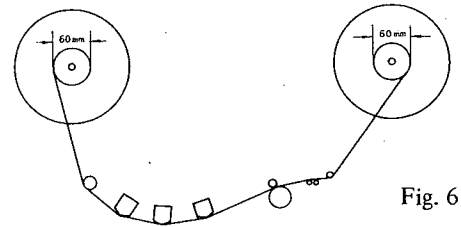

Fig. 6
- 1) Back tension for "Reverse Play" depends upon the torque of Motor B, as shown in Figure 6. Adjust back tension to 60 grams adjusting the 230  $\Omega$  Resistor (F), as shown in Figure 5. At this tension setting, voltage applied to Motor B is approximately 29 V.
- 2) Take-Up tension for "Normal Play" depends upon the torque of Motor B, as shown in Figure 6. Adjust take-up tension to 100 grams by adjusting the 120  $\Omega$  Resistor (A), as shown in Figure 5. At this tension setting, voltage applied to Motor B is approximately 41 V.
- 3) Back tension for "Normal Play" depends upon the torque of Motor A, as shown in Figure 6. Adjust back tension to 60 grams by adjusting the 230  $\Omega$  Resistor (F), as shown in Figure 5. At this tension setting, voltage applied to Motor A is approximately 29V.
- 4) Take-up tension for "Reverse Play" depends upon the torque of Motor A, as shown in Figure 6. Adjust Take-up tension to 220 grams by adjusting the 120  $\Omega$  Resistor (A), as shown in Figure 5. At this tension setting, voltage applied to Motor A is approximately 62V.